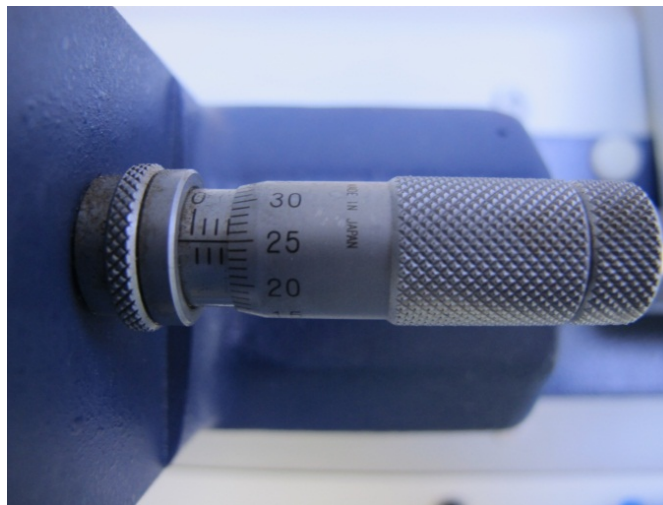

Figure 5
3. Open the Logitech VS2 vacuum valve (Fig. 5) and remove the slide from the chuck face.